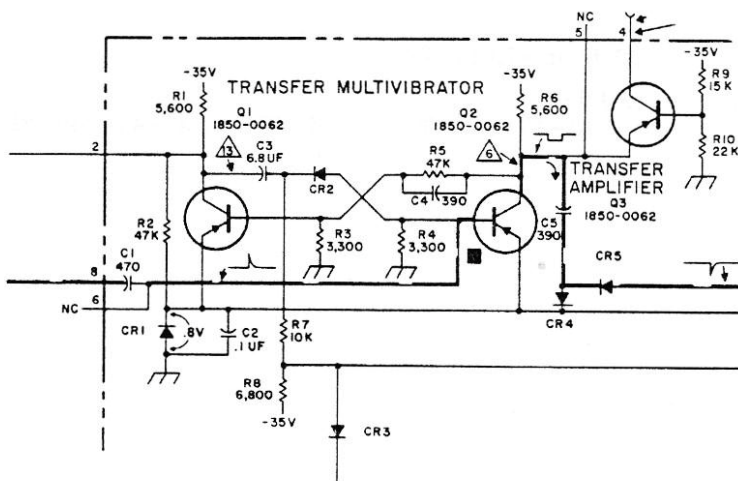

Figure IA-3. A16 Display Control Assembly
- (422, 426) Figure 5-8, A16 Display Control Assembly. See partial schematic, Figure IA-3, and make the following changes: